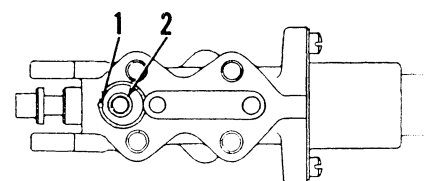

Fig. MH35—Top view of Massey-Harris Pony control valve with hydraulic lines pad removed.
When reinstalling control valve to the cylinder, make certain that the two "O" ring gaskets are properly located between the parting surfaces of the control valve and cylinder. When reinstalling the hydraulic lines pad to the control valve, make certain that the "O" ring gasket (2—Fig. MH35) is properly located, and that the pad gasket does not cover relief port (1). Tighten the four round head pad attaching screws to a torque of 7-9 foot pounds **only**. Remove hood and fill reservoir up to baffle; start engine and operate power lift several times; then fill reservoir up to baffle again, and replace hood.
72. LOSS OF LIFTING POWER. Indicates that hydraulic lines pad gasket on control valve is covering relief port (1—Fig. MH35) or the "O" ring gaskets which are located between the control valve and cylinder, hydraulic lines pad and control valve, hydraulic lines pad and reservoir, and/or reservoir and pump, are improperly seated. Renew gasket between pad and control valve, and install new "O" ring gaskets.